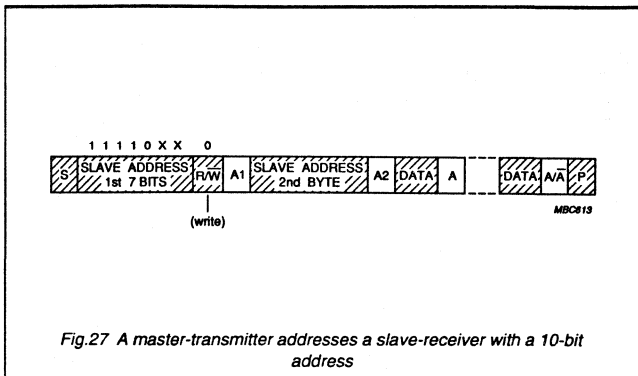

Fig.27 A master-transmitter addresses a slave-receiver with a 10-bit address
- **Master-transmitter transmits to slave-receiver with a 10-bit slave address. The transfer direction is not changed (Fig.27).** When a 10-bit address follows a START condition, each slave compares the first 7 bits of the first byte of the slave address (11110XX) with its own address and tests if the eighth bit (R/W direction bit) is 0. It is possible that more than one device will find a match and generate an acknowledge (A1). All slaves that found a match will compare the 8 bits of the second byte of the slave address (XXXXXXX) with their